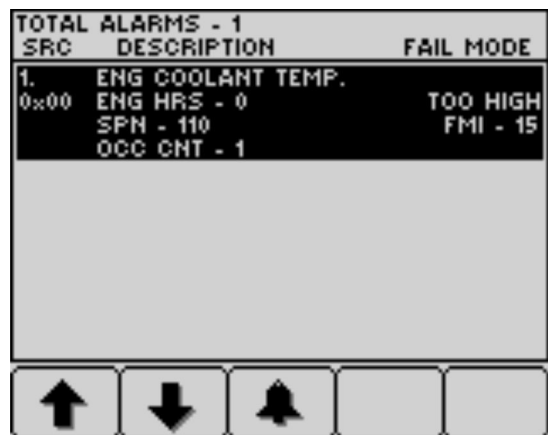

Figure 38
3. Press button 1 through 5 to view the active fault list (Figure 38).
4. Press button 1 through 5 to view the active fault list ; refer to Figure 38 in Engine Advisories Messages (page 35).